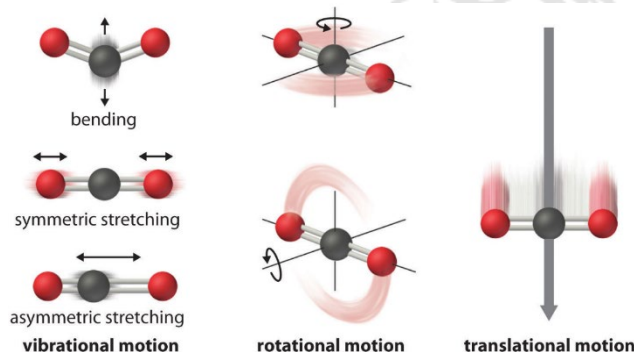

Fig. 13.1
The microscopic kinetic energy (KE) of a body is due to the kinetic energies of its particles due to their constant random motion, which can be translational, rotational or vibrational as shown in Fig. 13.1.